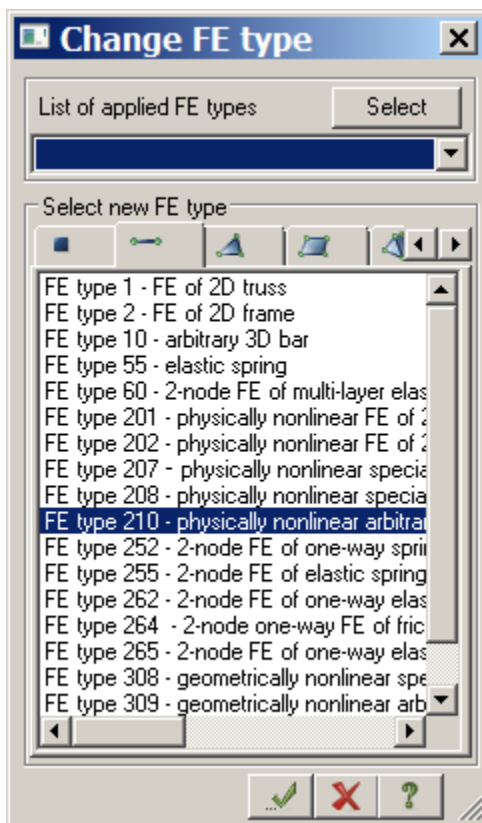

Figure 7.18 Change FE type dialog box
- ⇒ In the **Change FE type** dialog box (see Figure 7.18), in the **list of FE types**, select **FE type 210 – physically nonlinear arbitrary 3D bar**.